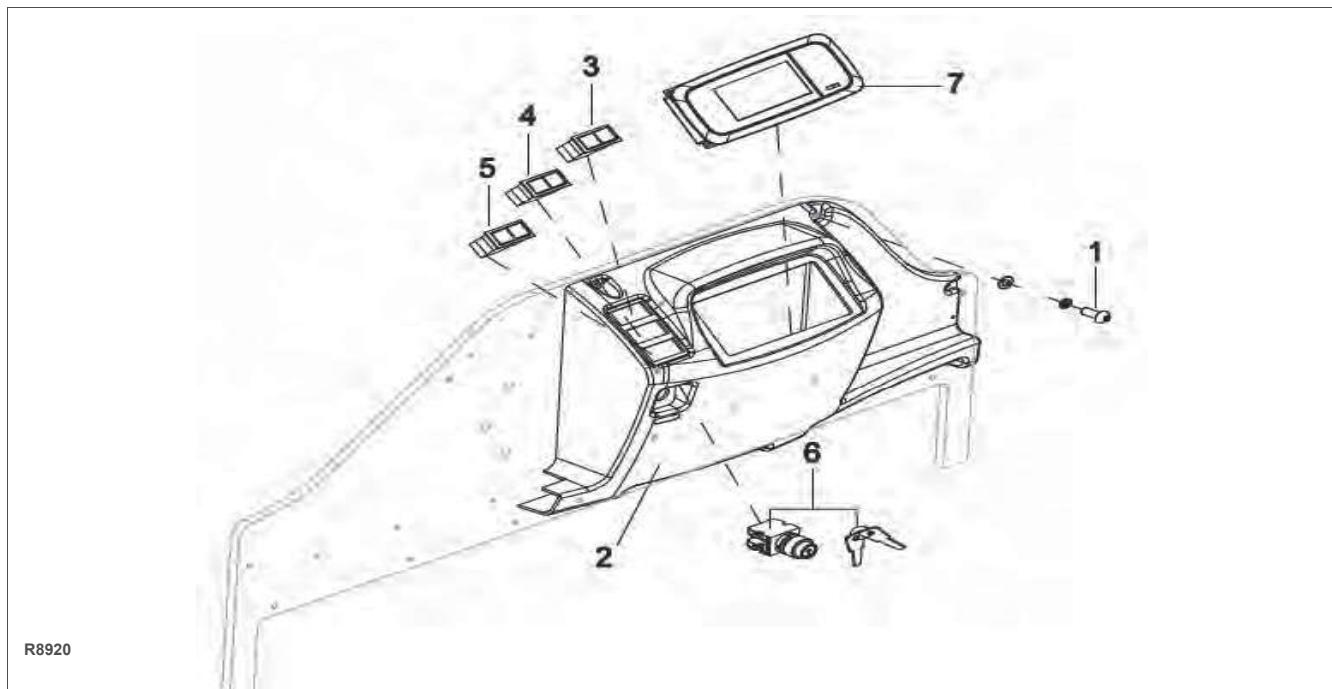

Figure 10-1 Operator Compartment
1. Remove the five screws (, Figure 10-1), remove the control panel cover (2) from the font plate.
3. Remove the headlight switch (3), warning light switch (4), blue light switch (5) and other components such as key switch (6) and display unit (7).
2. Disconnect the warning light switch (4, Figure 10-1) from the main harness and remove from cover (2).
2. Disconnect the display unit (7, Figure 10-1) from the main harness and remove from cover (2).